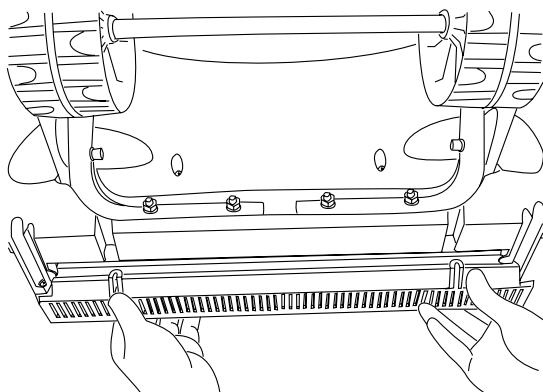

Figure 25
2. Detach the worn scraper bar from the snow thrower by removing 2 screws that hold it in place (Fig. 25).